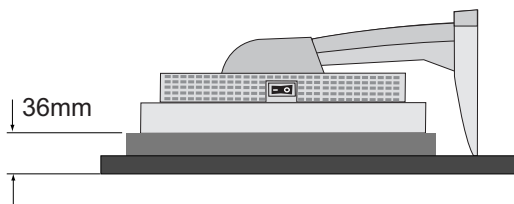

Figure G.1
2. Place monitor face down on a non-abrasive surface (Place the screen on a 36 mm platform so that the stand is parallel with the surface.) (**Figure G.1**).